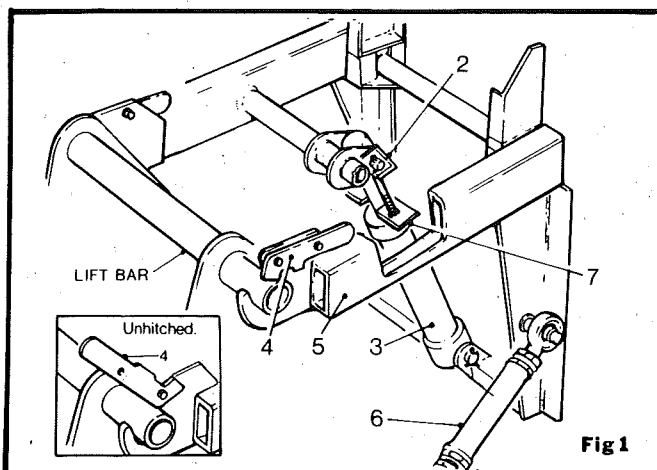

Fig 1
The Turbo-Topper is mounted to the front of the tractor supported by mounting brackets fitted to the tractor. It is fully floating on pivoting linkage, and raised and lowered by a hydraulic ram (Item 3 fig 1), the ram being fed and operated by hydraulic hose from the tractor external control lever.
With the tractor mounting brackets and the mounting frame assembly (Item 1 fig.1) in position on the tractor and with the hydraulic ram (Item 3 fig.1) connected to the tractor external hydraulics, the quick hitch system can be used.
1. Lift the ram stop (Item 2 fig.1) clear of the hydraulic ram (Item 3 fig.1).
2. Drive the tractor forward and locate the hooks on the lift arms (Item 5 fig.1) around the lift bar on the topper. Ensure that the lift bar is fully located in the hooks before any attempt is made to lift the topper.
3. Lift the topper by actuating the hydraulic ram (Item 3 fig.1). Ensure that the latch (Item 4 fig.1) has positioned itself over the topper lift bar as shown in fig 1.
4. Fit the stabilizer links (Item 6 fig.1) between the mounting frame (Item 1 fig.1) and the topper. Then the topper is in work the front should be lower than the rear, to achieve this turn the stabilizer clockwise or anti-clockwise.
2. Remove the stabilizer links (Item 6 fig.1).
3. Position the latch (Item 4 fig.1) as shown in fig. 1.
4. Lower the topper to the ground, when the topper has touched the ground continue to lower the lift arms (Item 5 fig.1) and slowly reverse the tractor until the topper is free of the lift arms.
The amount of tops removed from the beet by the rotors is determined by the size of the crown that can be removed by the scalpings. As a guide to the amount of top to remove, prior to scalping set the depth of cut of the rotors knives (Item 5 fig.2) to just top the highest beet (fig.4). The depth of cut is determined by the depth wheel (Item 47 fig.3) fitted at the front of the unit. To adjust the depth wheel (Item 47 fig.3) loosen the two retaining screws in the depth wheel stop clamps (Item 85 fig.3) and lift or lower the wheel according to the amount of topping required. Stop brackets (Item 2 fig.1) fitted to the hydraulic ram (Item 3 fig.1), its purpose is to reduce the amount of float should the depth wheel (Item 47 fig.3) sink into the ground when travelling over undulating ground or soft soil patches.
To adjust the stop bracket (Item 2 fig.1), the position of the stop plate (Item 7 fig.1) must be altered in relationship to the hydraulic ram (Item 3 fig.1). The size of the gap between the stop plate (Item 7 fig.1) and the hydraulic ram determines the depth at which the topper is allowed to drop.